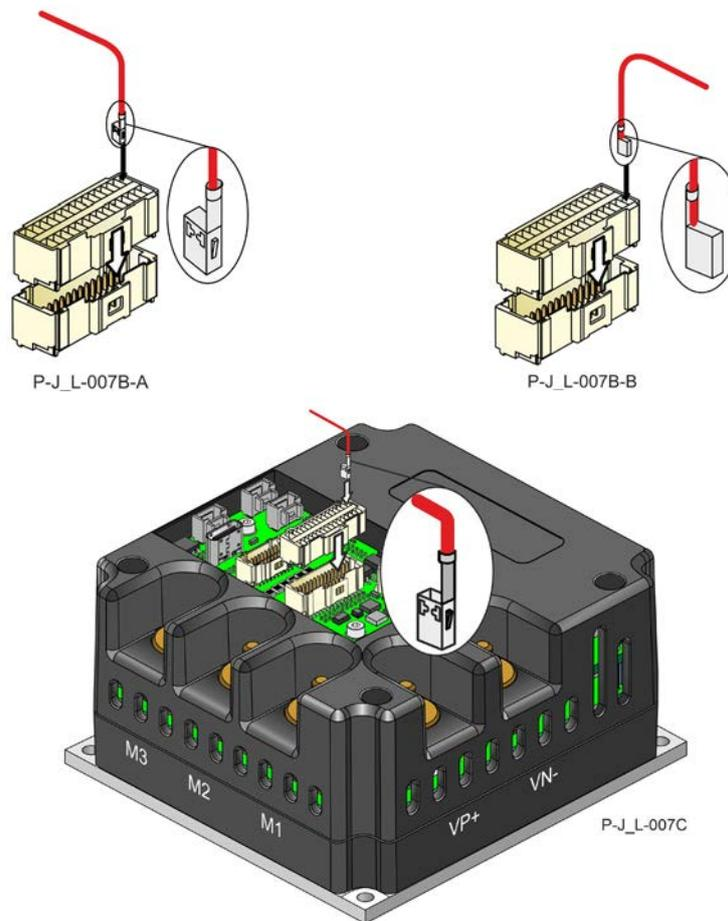

Figure 8: Inserting a wire/pin to the Female Connector
3. Place the connector on a flat surface, in the orientation as shown in Figure 8. Notice that the rectangular slot has a niche at the bottom of the slot.
4. Insert the wire connector to the slot as shown in Figure 8.